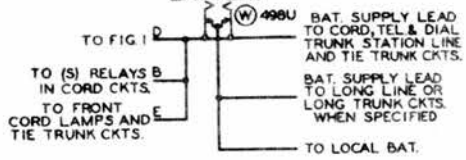

FIG. 6
- 1.4 The fuses and the battery key shown in Fig. 6 are provided for two positions with central office battery or building battery where the building battery is inaccessible for replacement of fuses.